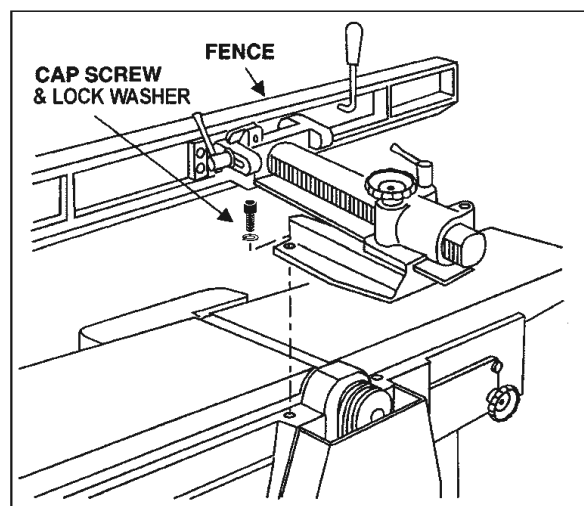

Figure 2
1. Use an assistant to help place the fence assembly on top the table, aligning the holes in the fence assembly with the holes in the table base, as shown in Figure 2.
2. Use the two socket head cap screws and two lock washers (Figure 2) and tighten securely with a 10mm hex wrench.